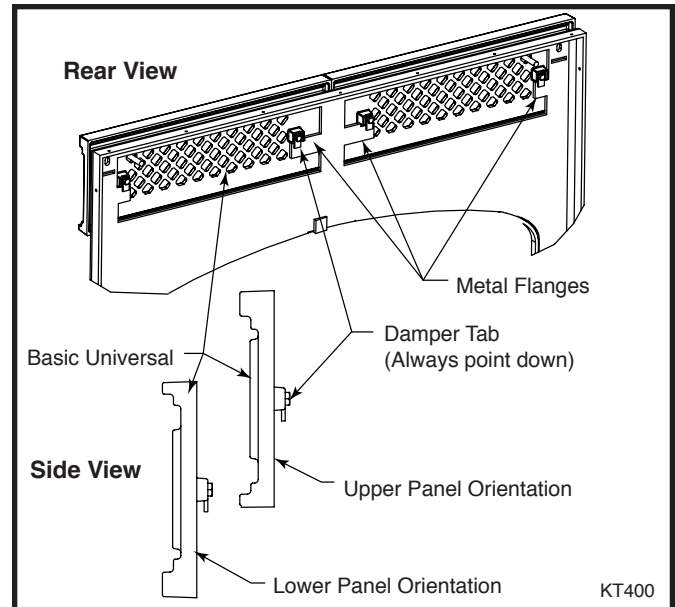

Fig. 2 Place basic universal, making sure the damper tabs engage plate steel metal flanges of fireplace.
1. Insert each basic universal into openings in fireplace. Be sure the damper tabs have engaged plate steel metal flanges in openings. **NOTE:** The damper tabs always point down. (Fig. 2)